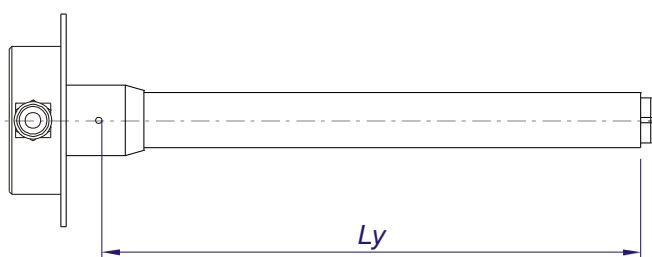

Figure 1.1 - Level measurement range
- 1 Level measurement range – L_y distance from the lower cut of metal tube (lower threshold of measurement) to the lower edge of drain orifice (highest threshold of measurement), according to Figure 1.1: